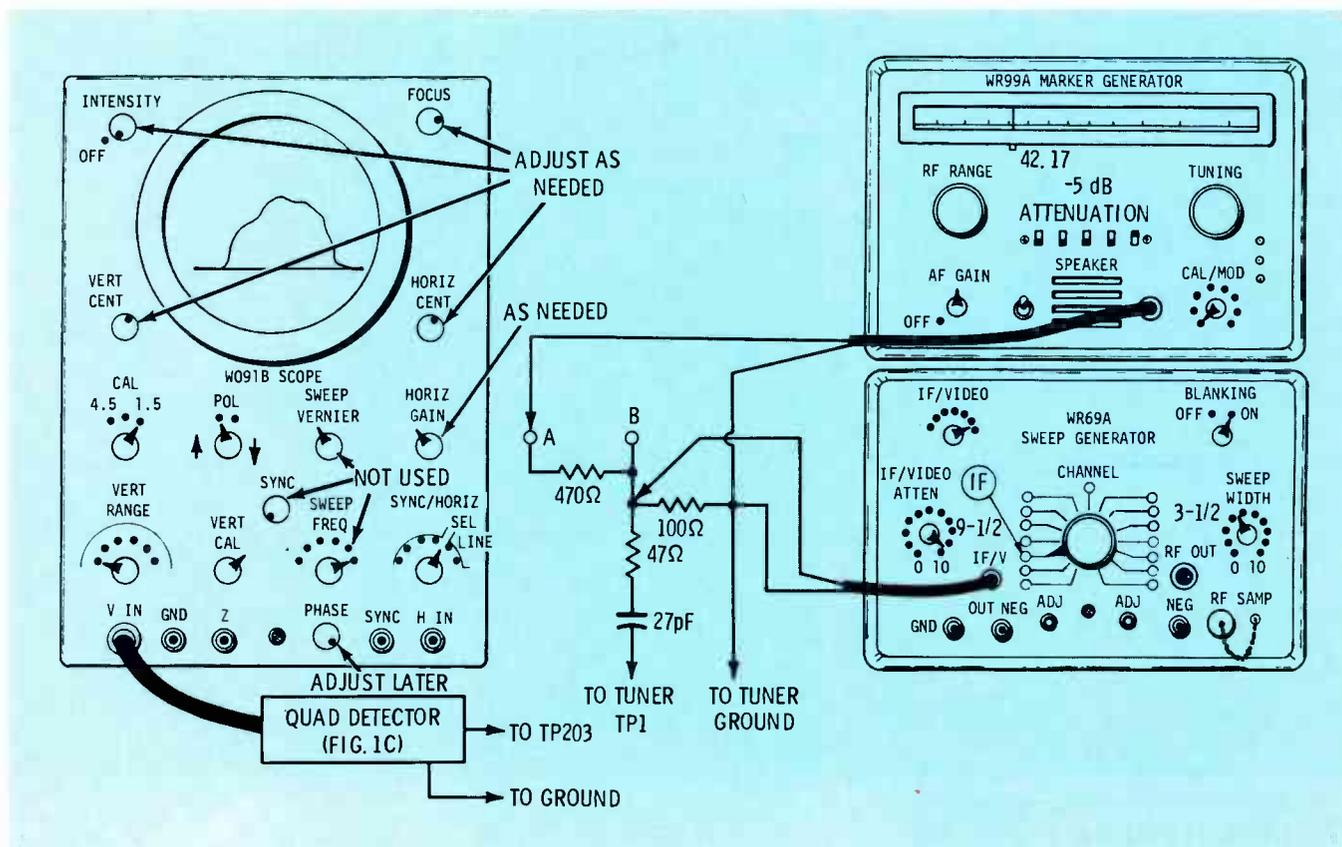

Fig. 4 Scope and generators preset for link alignment.
2. Prepare the two generators and the scope as shown in Fig. 4.